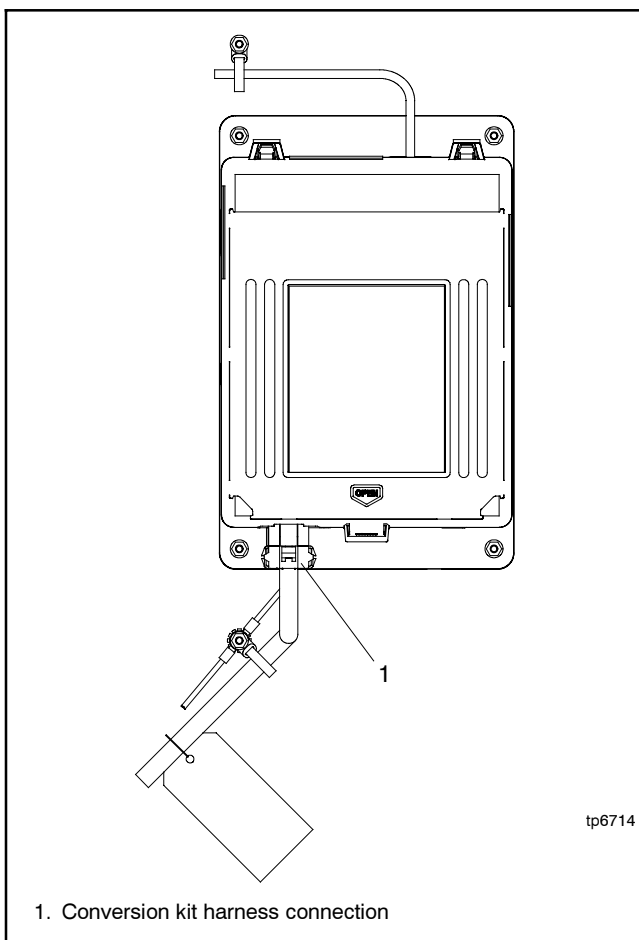

Figure 17 Connection to MPAC™ 1500 Controller
19. Connect P1 of the conversion kit harness to P1 of the MPAC™ 1500 controller. See Figure 17.